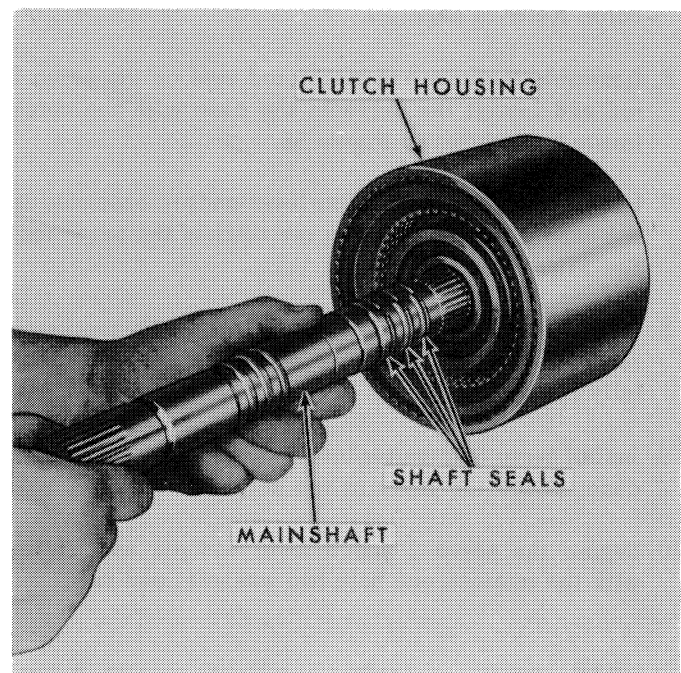

Figure 59
26. Install the three rearmost shaft seals on the mainshaft. Use Vaseline to center the seals. Install the shaft in the clutch 2 and 3 housing as shown in Figure 59.